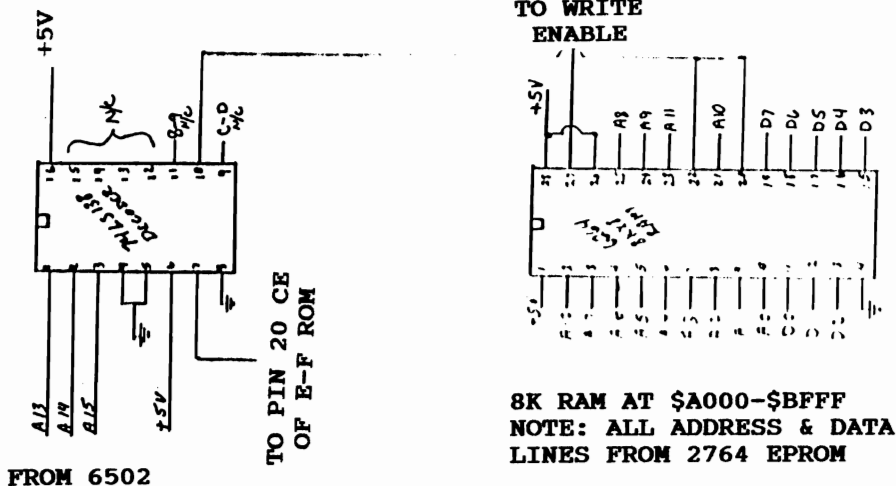

FIGURE 1
Refer to figure 1. This figure shows the connections to the 74LS138 address decoder and 8K RAM. The three input lines of the decoder (pins 1-3) are connected directly to the microprocessor's address lines A13-A15. Pins 4-6 can be used to turn the DECODER on and off; for our purposes we want it on all the
- 1) The pins on IC chips are numbered counter-clockwise from notch in one end. Some IC's have a dot by pin 1 instead of a notch. See figure 1.
In the first 8K extra memory setup, we allowed the normal address decoding logic to select the ROM at \$C000-DFFF whenever necessary. As we noted then, the normal decoder does not use bit 14. This means that it cannot distinguish between references to the \$8000 and \$C000 ranges, so again an image of the \$C000 ROM appears at \$8000. In order to add our second 8K there, we'll have to bypass the normal decoding/selection process and do our own. This can be accomplished by breaking the normal select line to the \$C000 ROM and using our 74LS138 decoder to choose between the two chips as necessary. See figure 1.